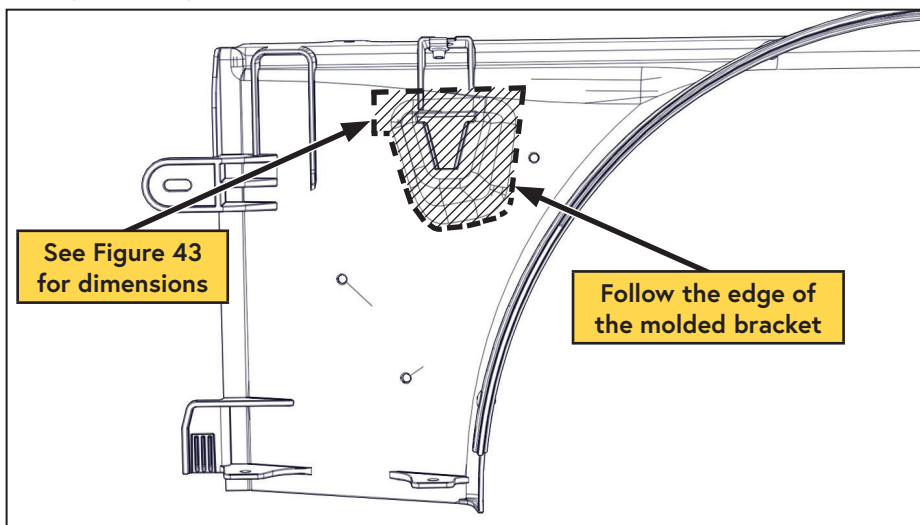
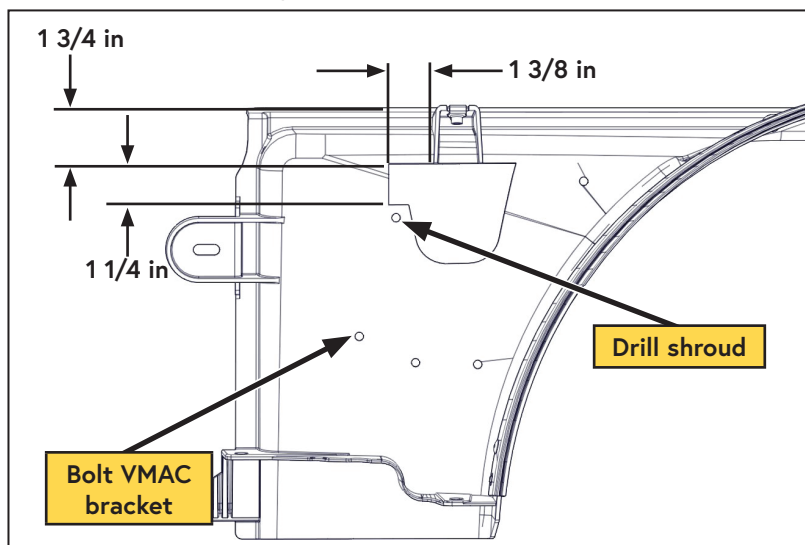

Figure 42 — Fan shroud modification
Figure 43 — Fan shroud modification
- ☐ Remove the power steering mounting boss and cut out the shaded area (Figure 42, Figure 43).
- ☐ Use the VMAC power steering bracket as a template to locate and mark the location of the top hole (Figure 43).
- ☐ Drill the marked location using a 1/4 in drill bit (Figure 43).